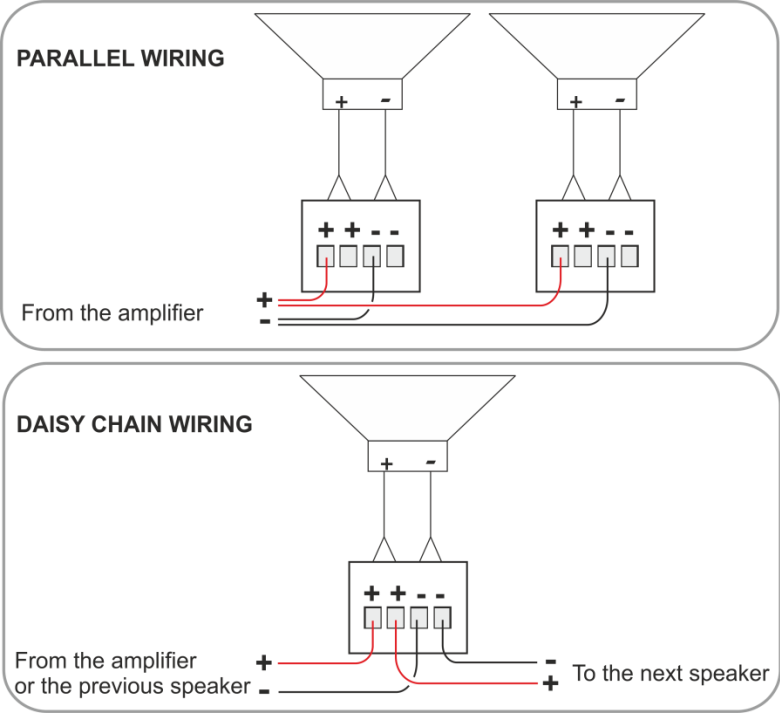

Figure 3: Yarden 6-CH Schematic Diagram
Figure 3 shows a schematic diagram of the **Yarden 6-CH**:
- **Wiring in parallel:** connect the amplifier directly to each of the speakers. When one input connector is removed, subsequent speakers will remain connected (see Figure 3)
- **Daisy-chaining:** connect the wire pair (+ and -) of the speaker to the subsequent speaker + and -. When one input connector is removed, subsequent speakers will be disconnected (see Figure 3)